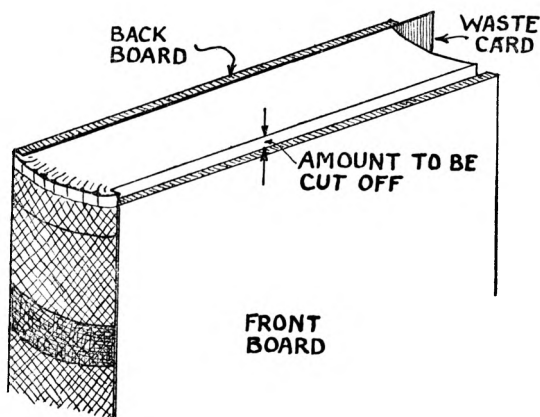

Fig. 67
49. Knock up the book and boards square at the head and see that the boards lie exactly up to the grooves. Lower the front board a distance equal to the amount that is going to be cut off the head of the book, fig. 67.